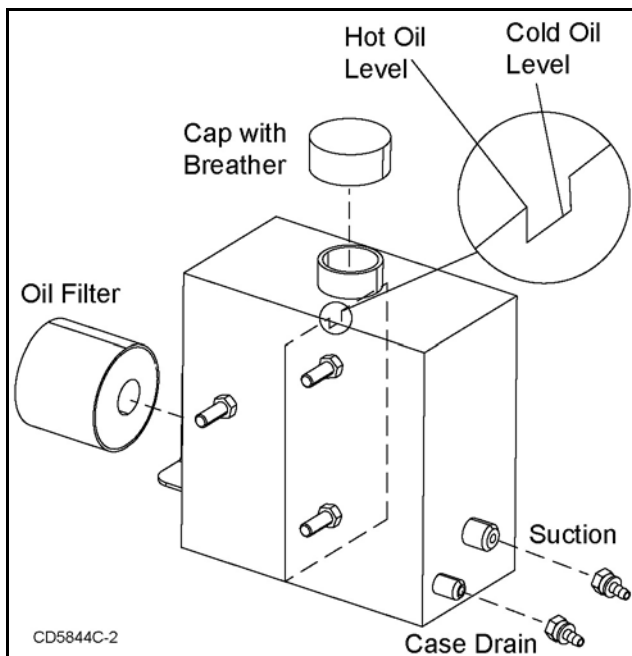

Figure 7. Hydraulic Tank
3. Remove cap and look inside reservoir to check fluid level. Check oil against notch in center of reservoir; hot oil should be to the top of the divider, cold oil should be to the bottom of the notch. See Figure 7.
4. Remove automotive type filter (Figure 7) by turning counter-clockwise.